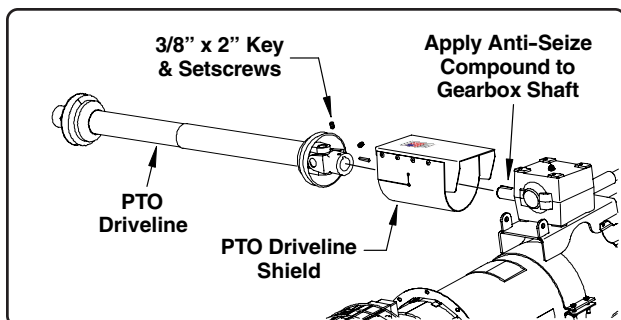

Fig. 29
2. Slide the PTO u-joint shield over the end of the PTO driveline. Install a 3/8" sq. x 2" long key into the keyway on the gearbox input shaft, apply anti-seize compound to the shaft and attach the 1 1/2" diameter bore end of the driveline to the input shaft (See Fig. 29).